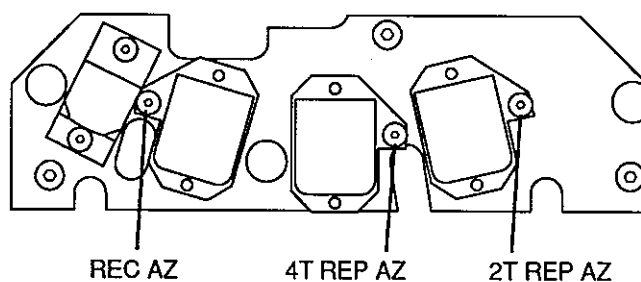
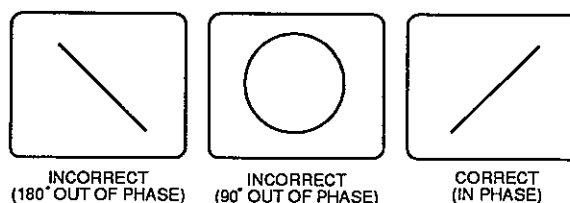

Figure 4-21
Figure 4-22
7. Locate and play the 1 kHz portion of the Reproducer Calibration tape and adjust the screw marked "**2T REP AZ**" (2 Tr Repro Azimuth) in **Figure 4-21**, until the pattern on the oscilloscope becomes a straight line at a 45 degree angle as shown in **Figure 4-22**.
8. Play each increasing frequency section of the Reproducer Calibration tape (2 kHz, 4 kHz, 8 kHz, 10 kHz, 12.5 kHz, 16 kHz, and 20 kHz) and adjust the screw marked "**2T REP AZ**" until the pattern on the oscilloscope becomes a straight line at a 45 degree angle, at each frequency, as shown in **Figure 4-22**.